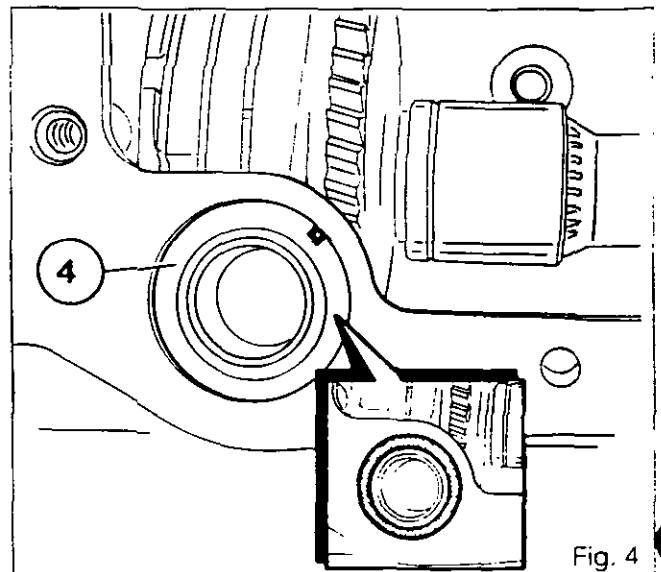

Fig. 4
- for the suction pipe (4) (Fig. 4) (ensure the pipe is the right way round: the pin on the housing must be in the notch (Fig. 4)).